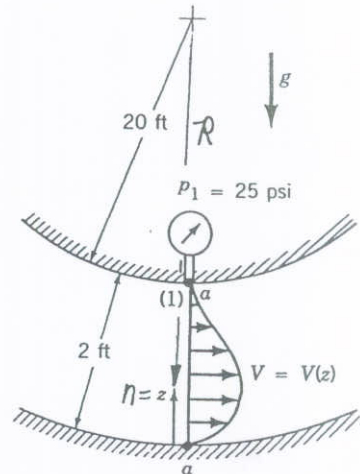

FIGURE P3.15
\*3.15 Water flows around a vertical two-dimensional bend with circular streamlines as is shown in Fig. P3.15. The pressure at point (1) is measured to be  $p_1 = 25$  psi and the velocity across section  $a-a$  is as indicated in the table. Calculate and plot the pressure across section  $a-a$  of the channel [ $p = p(z)$  for  $0 \leq z \leq 2$  ft].